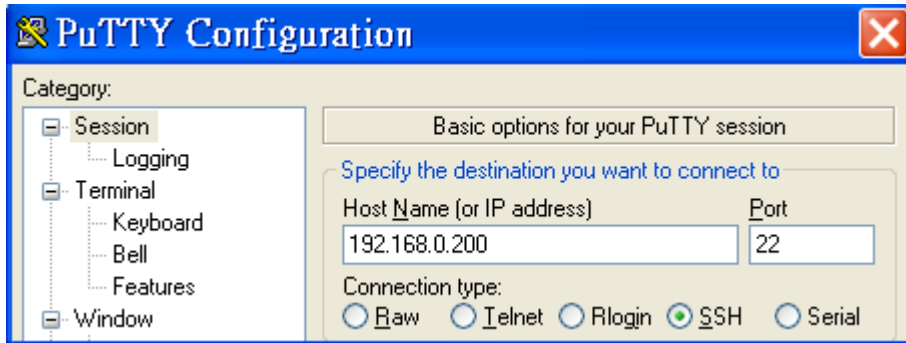

Fig.3-32
- (1) Putty – the free PuTTY is an SSH and telnet client. Download PuTTY tool: <http://www.putty.org/>
- (2) Open a “Putty Prompt” and type the IP Address of the LP-2241, and the connection type is set to SSH. When prompted, type the User\_Name and Password to establish a connection to the LP-2241. If the “#” prompt character is displayed, it signifies that a connection to the telnet server on the LP-2241 has been successfully established (refer to Fig. 3-32).